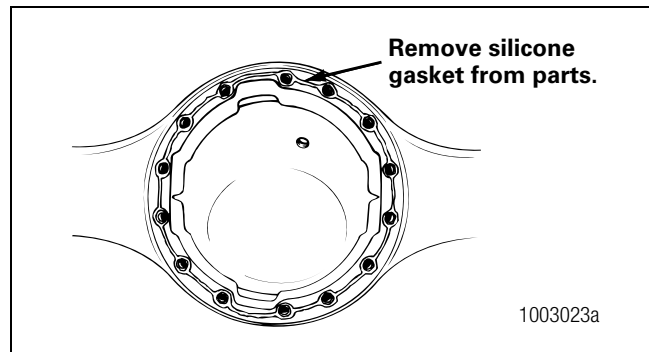

Figure 4.8
4. Clean the parts and apply new silicone gasket material where required when the axle or carrier is assembled. Figure 4.8.